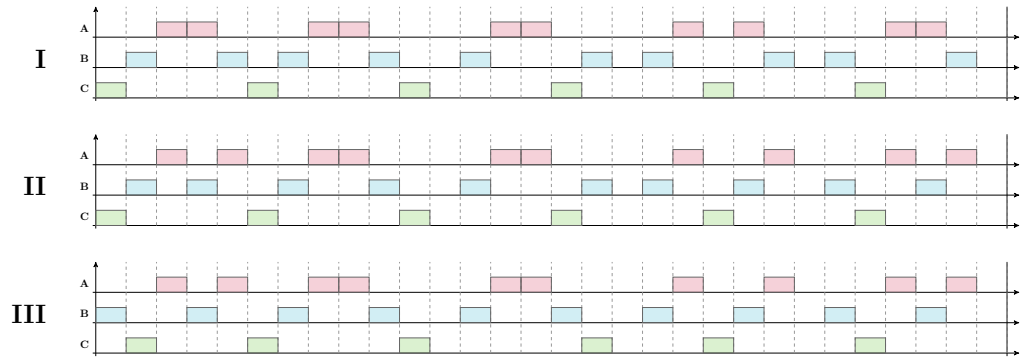

Figure 1 The three schedules necessary to solve Problem 4
4. Three schedules (**I-III**) of the same schedulable task set can be seen in Figure 1 for one hyper-period. All tasks are released simultaneously at the critical instant $t = 0$. The schedules correspond to a rate-monotonic, a deadline-monotonic, and an EDF scheduling strategy.
The schedules in Figure 1 corresponds to the following task set where some values have gotten lost.